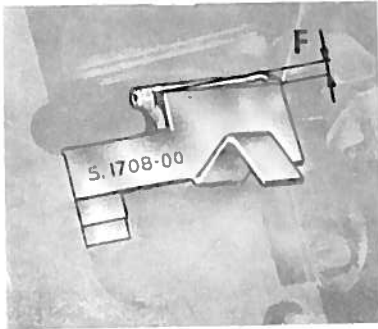

fig.12
- With the appropriate gauge n. S 1608, check the looper angle (fig. 12).